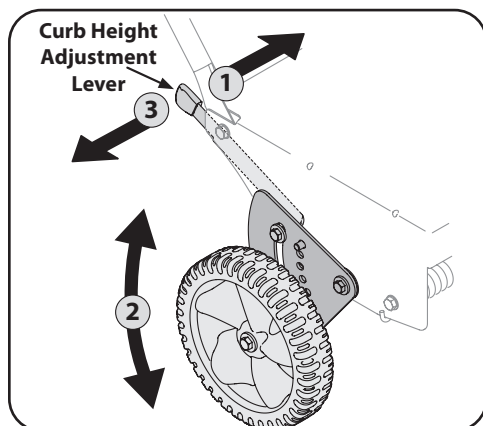

Figure 3-4
1. Lower the right rear wheel by moving the curb height adjustment lever slightly to the left. See Figure 3-4.
3. Release the curb height adjustment lever to lock the wheel in position. See Figure 3-4.